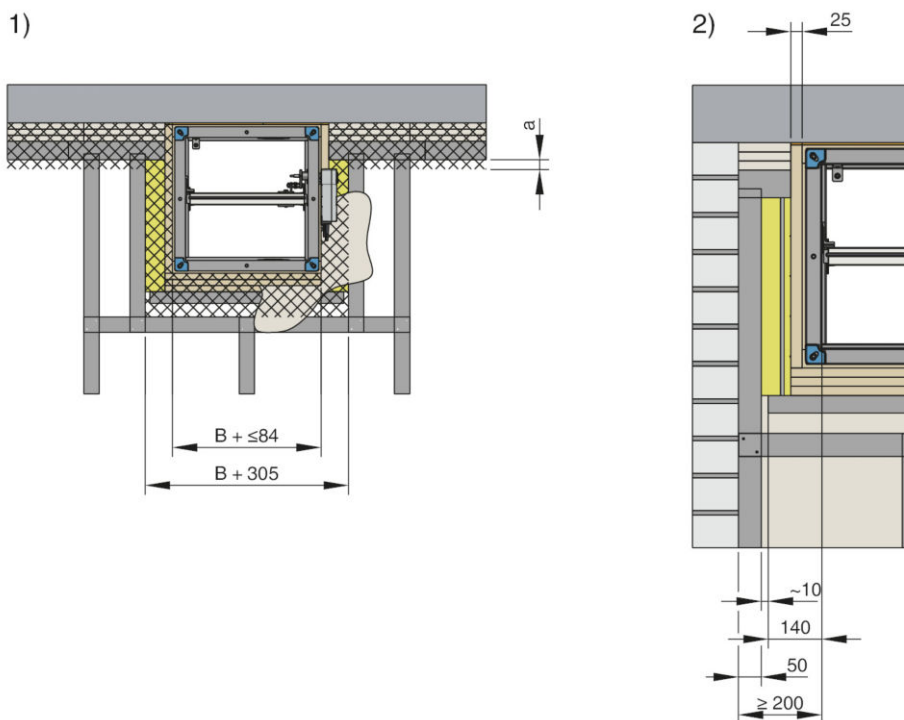

Fig. 69: Dry mortarless installation into a lightweight partition wall, with flexible ceiling joint
1. ▶ Attach the ceiling joint strips (7.21) and the ceiling joint section (7.22) according to the manufacturer's specifications. Even out the surface of the ceiling slab. When you fix anchors and threaded rods (5.4), leave out the area where the fire damper is to be installed (1) (at least $B + 933$ mm; at least $B1 + B2 + 140$ mm + 933 mm if you install two fire dampers side by side). On both sides, the ceiling joint section (7.22) must be ≥ 50 mm shorter than the ceiling joint strips (7.21). Select the ceiling joint strips (7.21) and ceiling joint section (7.22) according to the expected subsidence of the ceiling slab.
2. ▶ Drill holes for anchors, then place the anchors; for dimensions see Fig. 69 or 72.
6. ▶ Attach the fire damper (1) with the pre-assembled U50 channel (7.4) to the threaded rods (5.4). Tighten the nuts (5.4) to attach the fire damper and the installation kit firmly to the ceiling.
7. ▶ Use an additional U50 channel (7.4) to attach the extension piece (9.2) of the fire damper (1) to the ceiling.
9. ▶ Once the fire damper has been installed, the metal support structure can be set up or completed. Proceed according to the manufacturer's instructions. As you erect the wall, be sure to adhere to the dimensions given in the drawings. When cladding the walls, no screws must be used in the marked area, see Fig. 69/1). The wall has to be clad up to ≤ 2 mm to the left and right of the installation kit.